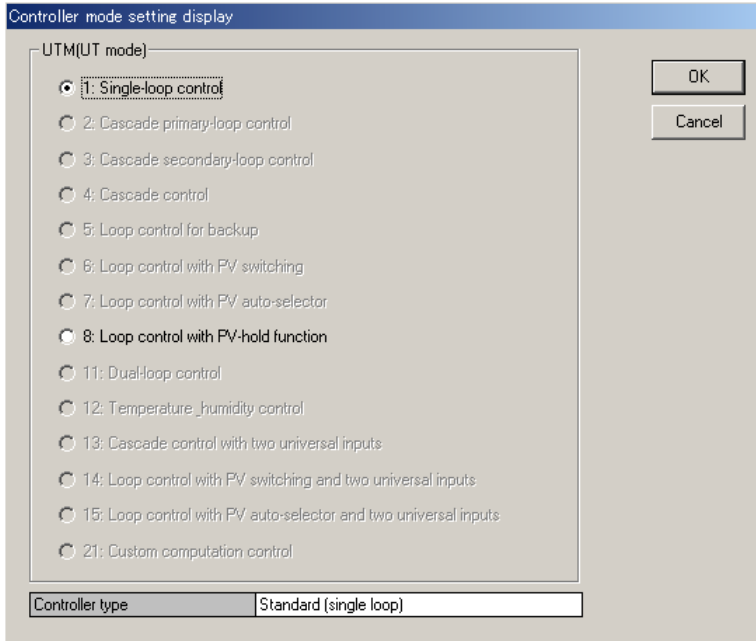

Figure 4.2.3 Controller Mode Setting Display Dialog Box (Example of UT551)
- (3) The Controller Mode Setting Display dialog box (Figure 4.2.3) opens.